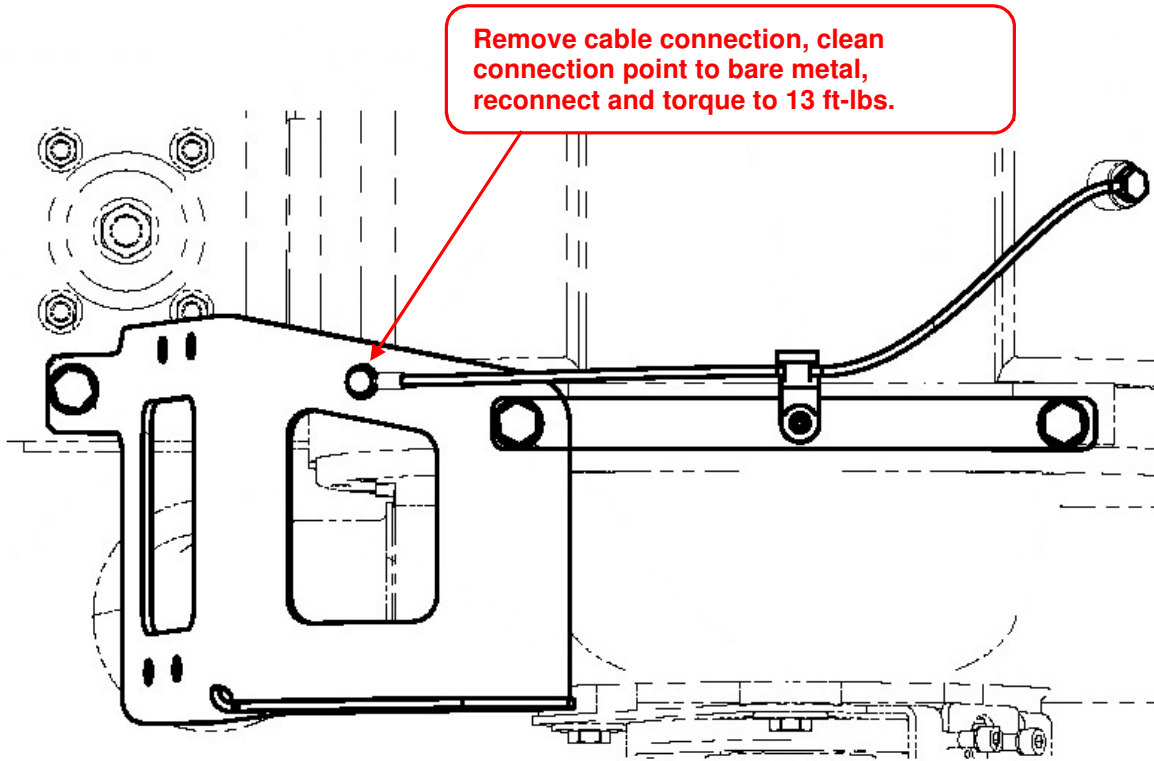

Figure 2: Traction Motor to Bracket Ground Cable, P/N: 586724
3. Disconnect Traction Motor to Bracket Ground Cable, P/N: 586724 at the bracket end. Refer to Figure 2.